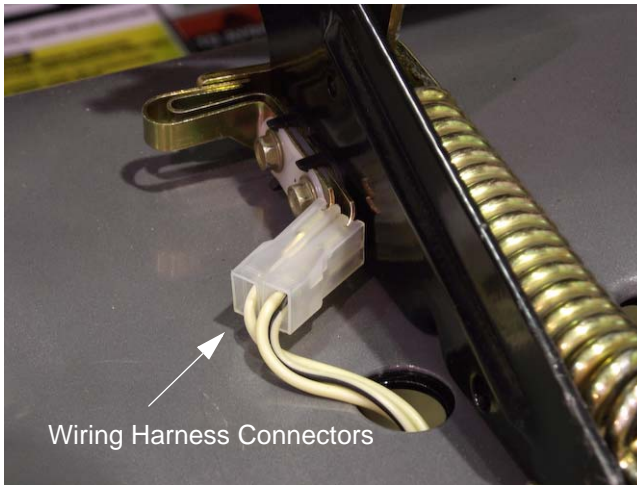

Figure 4.7
2. Remove the two wiring harness connectors from the seat safety switch. See Figure 4.7.